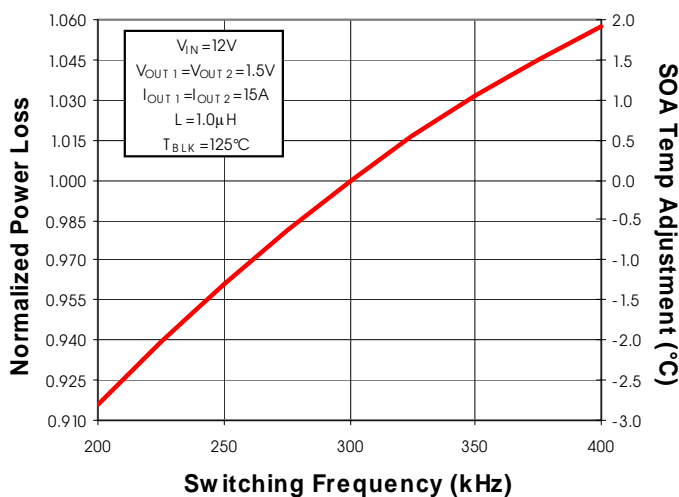

Fig. 6: Normalized Power Loss vs. Frequency
(Fig. 6) Normalized power loss for frequency ≈ 1.0
- (Fig. 6) Normalized power loss for frequency ≈ 1.0
- (Fig. 6) Normalized SOA Temperature for frequency $\approx 0^{\circ}C$